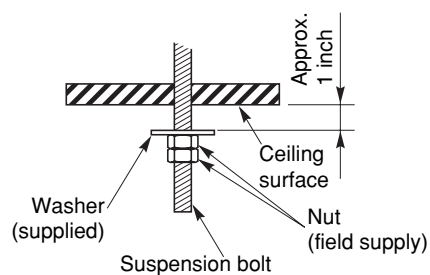

Fig. 3-47
(7) Suspend the indoor unit as follows.
- (a) Mount a washer and two hexagonal nuts on each suspension bolt as shown in Fig. 3-47.